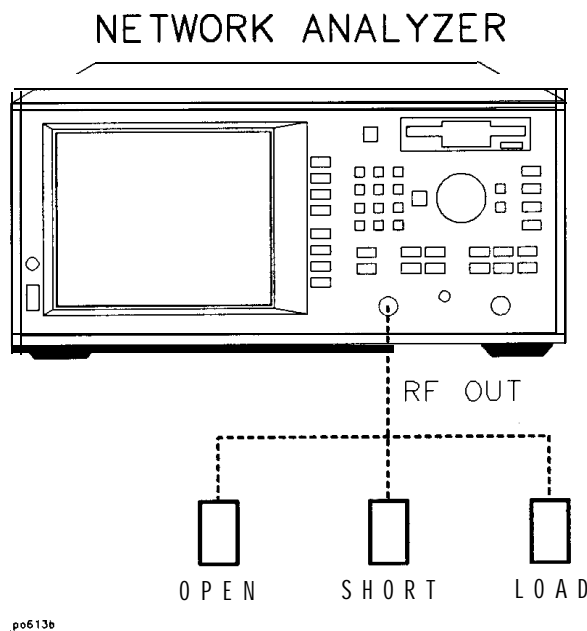

Figure 3-7. Equipment Setup For a Reflection Response Calibration
2. The instrument will prompt you to connect three standards (open, short and load) and measure them. See Figure 3-7.